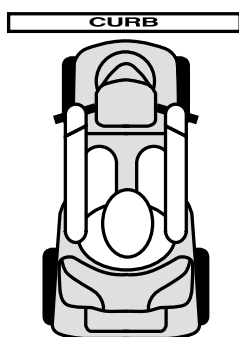

Figure 4. Correct Curb Approach
**WARNING! Be sure your scooter is traveling perpendicular to any curb you may be required to ascend or descend. See figures 4 and 4A.**